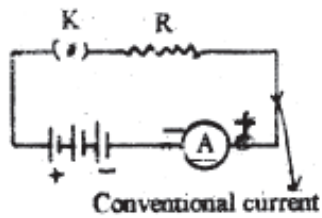

Fig.5
i.e. we find it convenient to talk in terms of the conventional current, in which we imagine positive charge flowing in the circuit (Fig. 5).